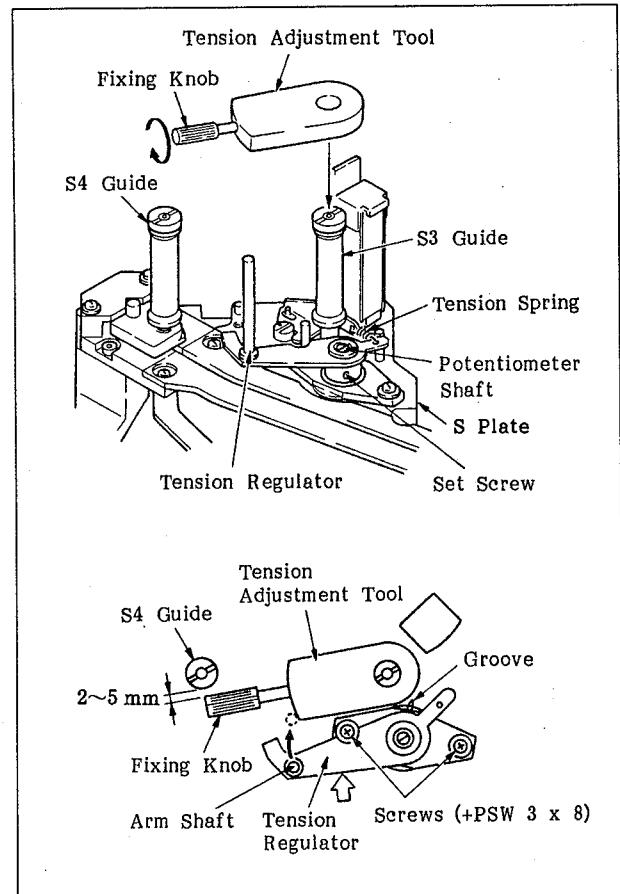

Fig. 9-6-1 Tape Tension Adjustment
3. Press the [F3] (C), the [4], the [SET], the [F6] (F), the [2], the [SET], and the [L] keys in that order to set the unit in threading condition without threading a cassette tape.
4. Loosen the two set screws (+PSW 3 x 8) that hold the tension regulator by one or two turns. Match the groove of the tension regulator to the groove of the S plate, as shown in Fig. 9-6-1 and then tighten the set screws.
5. Put the tension adjustment tool over the upper flange of the guide roller and tighten the fixing knob while pushing the tool down. (Fig. 9-6-1)
8. Rotate the potentiometer shaft clockwise slowly with a screwdriver and find the point where the indicated value of the digital voltmeter changes from the positive value to the negative value. Then obtain the central value (V) from the maximum value and the minimum value.
9. Push the position indicated by the arrow to push the arm shaft of the tension regulator against the tension adjustment tool, as shown in the top view of Fig. 9-6-1. Adjust by rotating the potentiometer shaft so that the indicated value of the digital voltmeter satisfies the following specification.
14. Loosen the two set screws (+PSW 3 x 8) that hold the tension regulator by one or two turns and then push the arm shaft of the tension regulator against the tension adjustment tool. (Fig. 9-6-1)
15. Adjust so that the indicated value of the digital voltmeter satisfies the following specification by inserting the screwdriver in the groove, shown in the top view of Fig. 9-6-1, and rotating it. If the adjustment cannot be made, repeat Steps 4 through 15.
19. Push the arm shaft of the tension regulator against the tension adjustment tool, as shown in the top view of Fig. 9-6-1.